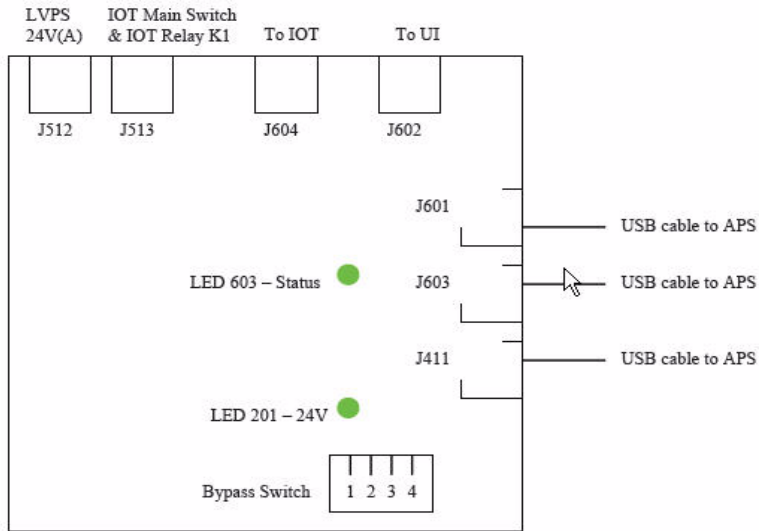

Figure 2 Accxes Interface PWB Bypass Switches
- Verify that the USB cable is connected between the Accxes Print Server and the Access Interface PWB on the 6279 Accxes Interface PWB Assembly (Figure 2).